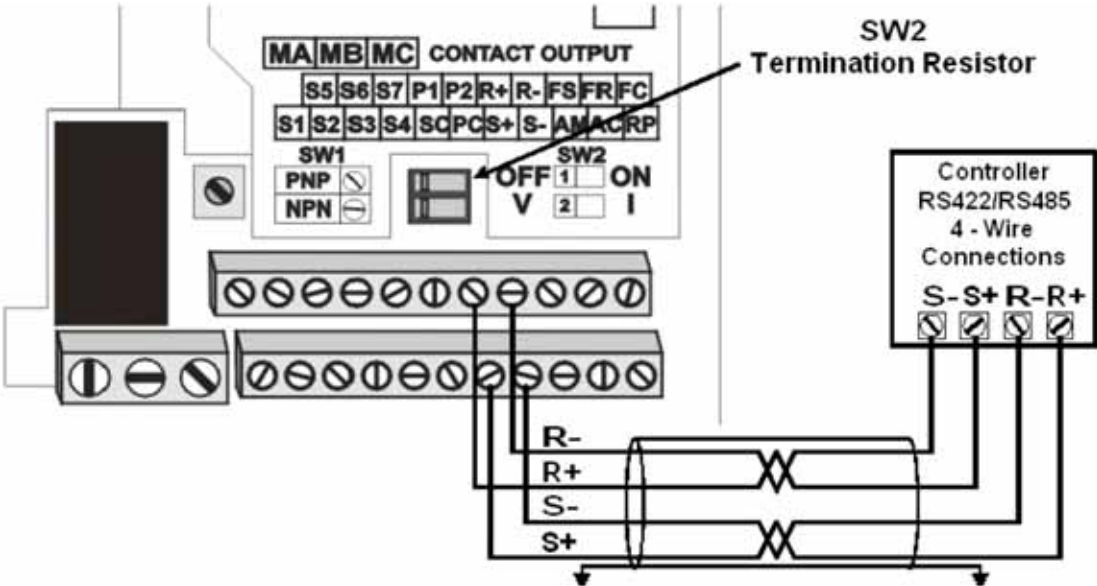

Figure 1.3 RS-422/RS-485 4-Wire Network Connection
- ☐ 5.2: Connect the controller to the S+/S- and R+/R- terminals on the V7 drive's terminal block as shown in *Figure 1.3 RS-422/RS-485 Connections*.